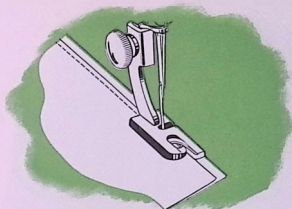

Fig. 40. Making a Felled Seam (First Operation)
1. Place right sides of material together, having edge of upper piece about $\frac{1}{8}$ inch to left of edge of under piece. Stitch the two pieces together, using hemmer as a presser foot. Guide both pieces by the projecting toe of hemmer, as shown in **Fig. 40**.